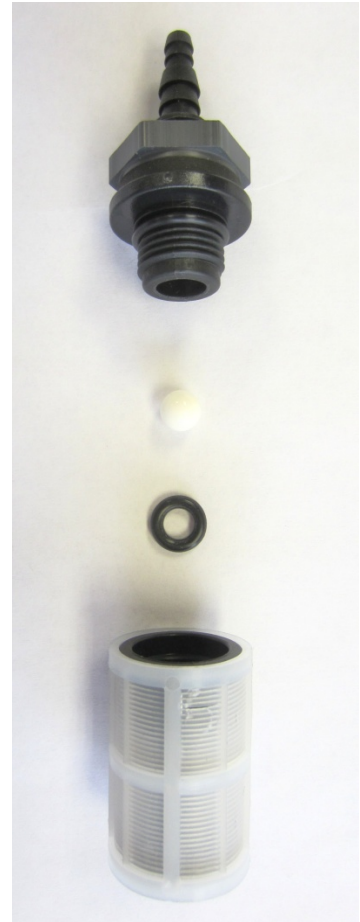

Figure 4-43-2
1. Foot Valve (Refer to Figure 4-43-1 and Figure 4-43-2)